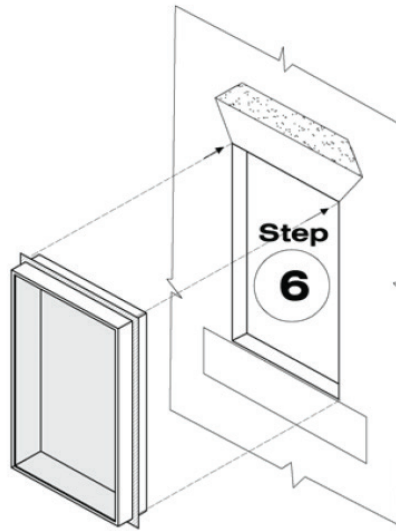

Figure 7 Install window into flashed opening.
Step 6. Install Window in prepared rough opening (see Figure 7).